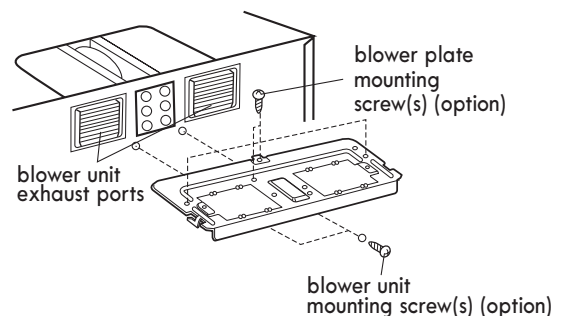

Figure 17
7. Reattach the blower plate to the top of the cabinet as it was originally assembled. Attach with blower unit mounting screw(s) and then blower plate mounting screw(s). See Figure 17.